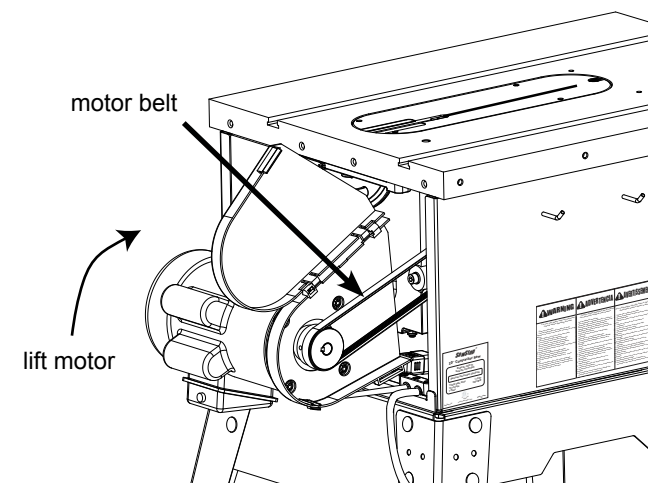
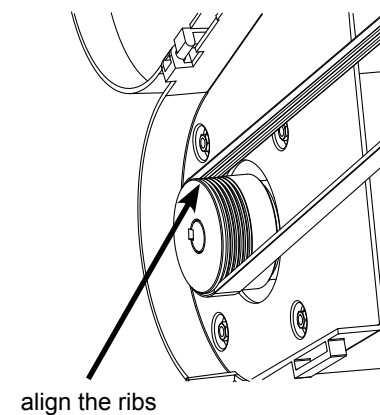

Fig. 19a
Fig. 19b
19. Install the motor belt by first placing the belt over the arbor pulley and then lifting the motor upward and placing the other end of the belt over the motor pulley (see Fig. 19a). Release the motor when the belt is in place so that the weight of the motor puts tension on the belt. Rotate the belt by hand to make sure the ribs on the belt are aligned with the grooves on both pulleys (see Fig. 19b).